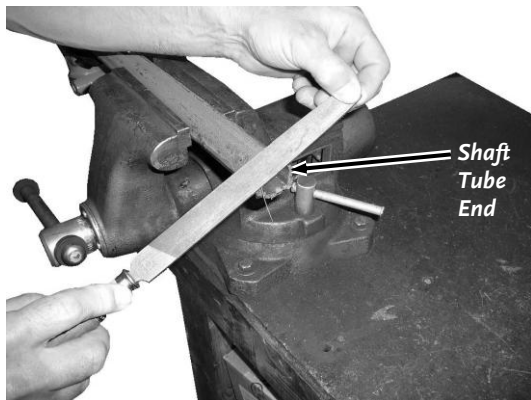

Figure 17
1. Wipe all dirt, etc., from the Wheel Support fitting with a clean cloth (Figure 17).
5. File or sand any burrs from the Shaft ends (**Figure 17**).